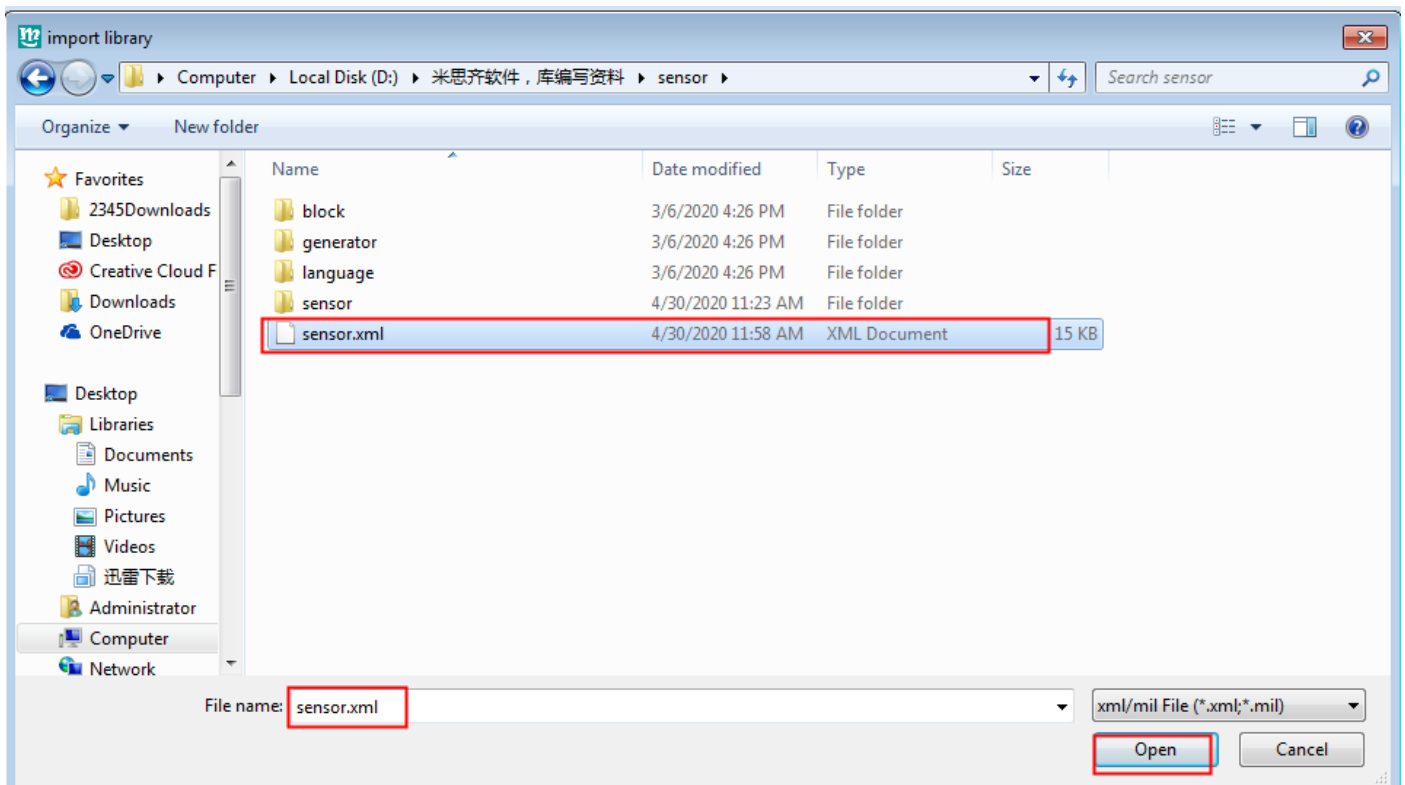

Figure 2-2
- 3) Click the sensor.xml file, and then click "Open", as shown in Figure 2-2